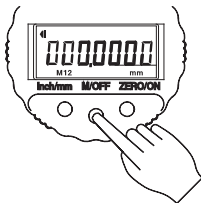

Figure 8 - Entering Tolerances (Limit #1)
- 3) Press and release **M/OFF** to display the **M12** icon signifying that the unit is in the limit #1 tolerance entry mode. A cursor appears above the leftmost digital position (Figure 8).